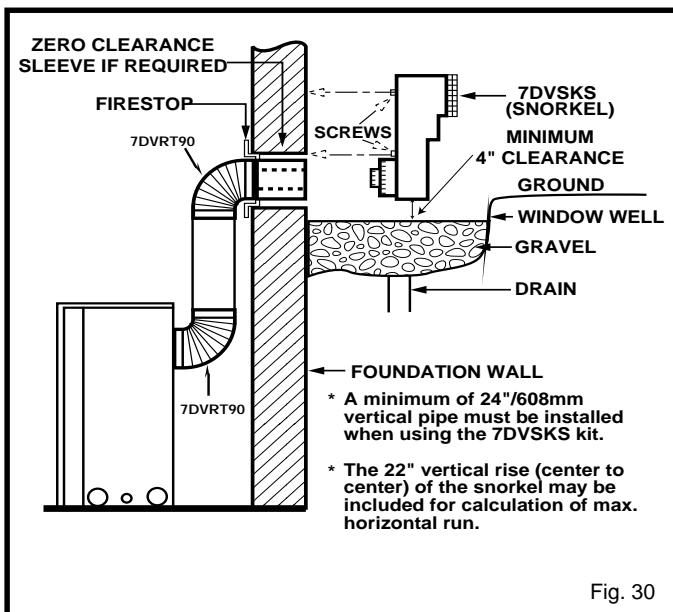

Fig. 30
2. Remove soil to a depth of approximately 16" below base of snorkel. Install window well (not supplied). Refill hole with 12" of coarse gravel leaving a clearance of approximately 4" below snorkel. (Fig. 30)
7. Level the soil so as to maintain a 4" clearance below snorkel (Fig. 30).